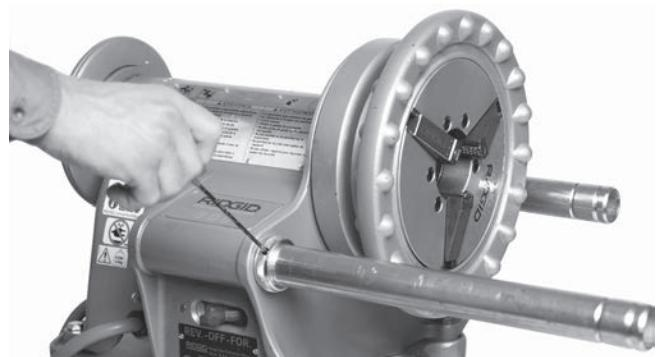

Figure 8 – Set Screw Location
1. Extend Support Bars fully forward. Push Retaining Rings back until they rest against the 300 Power Drive body. Tighten Set Screws in Retaining Rings with a $1/8"$ hex wrench (*Figure 8*).